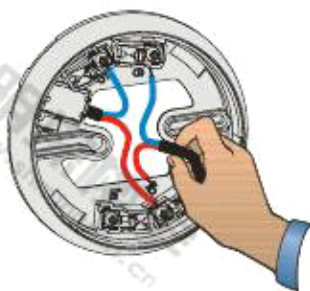
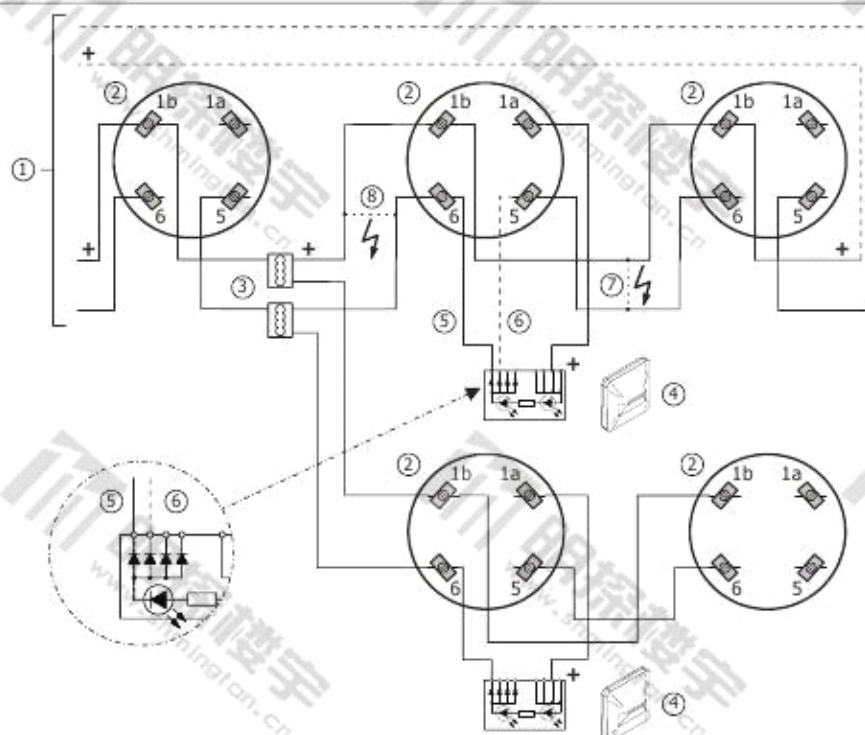

Fig. 1
Fig. 4
3. Connect the cable to the terminals according to Fig. 1/Fig. 4.